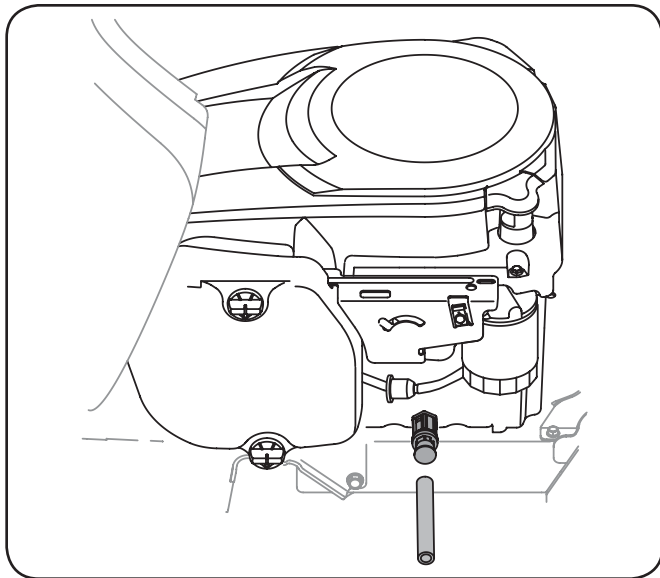

Figure 6-1
- Pop open the protective cap on the end of the oil drain valve to expose the drain port. See Fig 6-1.
- Pinch the tabs on the oil drain valve, then pull outward to begin draining oil. See Fig 6-1.